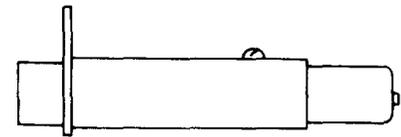

Fig. 20—570A Jack
**2.20 570A:** This coaxial-type jack (Fig. 20) has coaxially arranged inner and outer contacts. This single jack is designed to be used with the 440A and similar-type plugs. This jack is not designed for connection to a coaxial cable. The 570A jack is used as a terminating jack. This jack has a 75-ohm resistor connected internally from the center contact to the shell. This jack is used with the Toll Systems Mastergroup Multiplex.